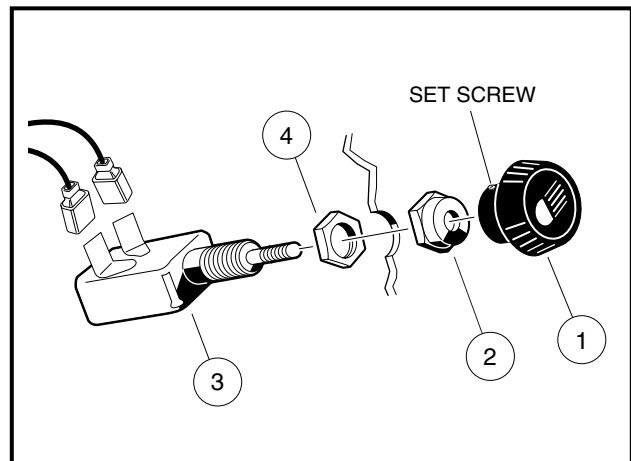

Figure 12-32 Light Switch
3. Loosen the set screw locking the light switch knob (1) to the shaft (**Figure 12-32, Page 12-27**).
6. Remove the outer nut (2) from the light switch (3) and remove (**Figure 12-32, Page 12-27**).
2. Thread the check nut (4) onto the switch until an equal number of threads show on both sides. Install to the dash panel with nut (2) on the outside of the dash and tighten the nut to 14 in-lb (1.6 N·m) (**Figure 12-32, Page 12-27**).